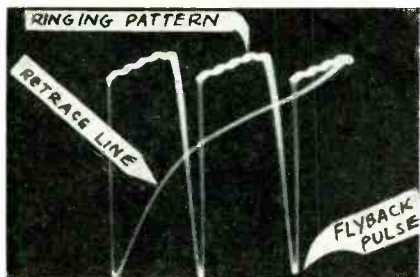

Fig. 2—Low frequency ringing effect in Hor. Output circuit.
**A.** No. As shown in Fig. 2, situations may arise in which the ringing frequency is much lower.